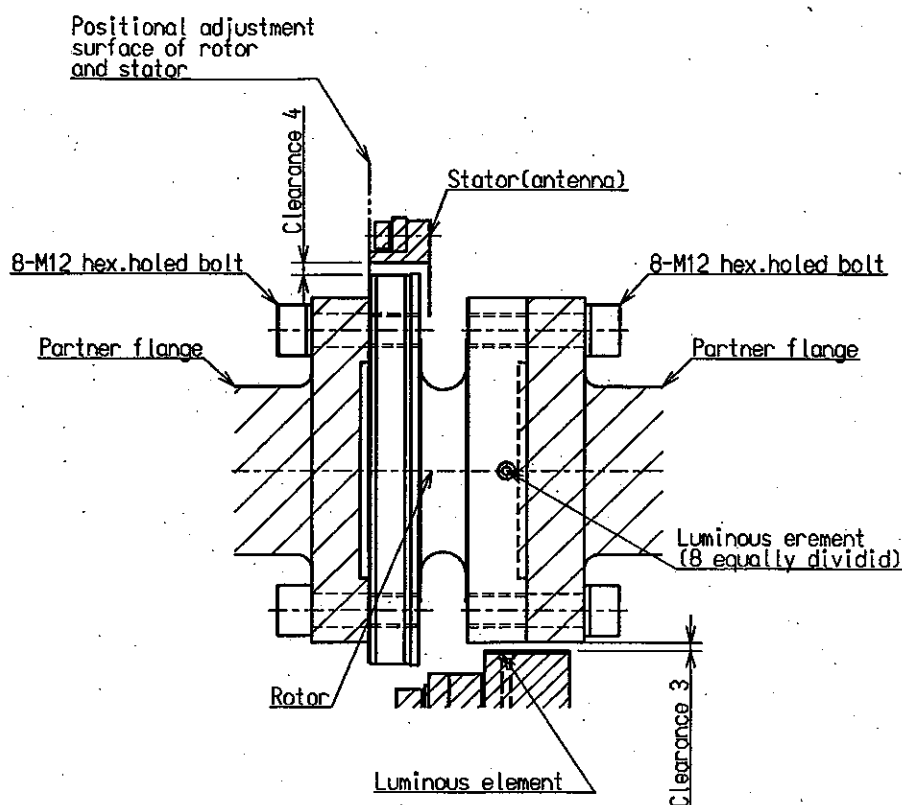
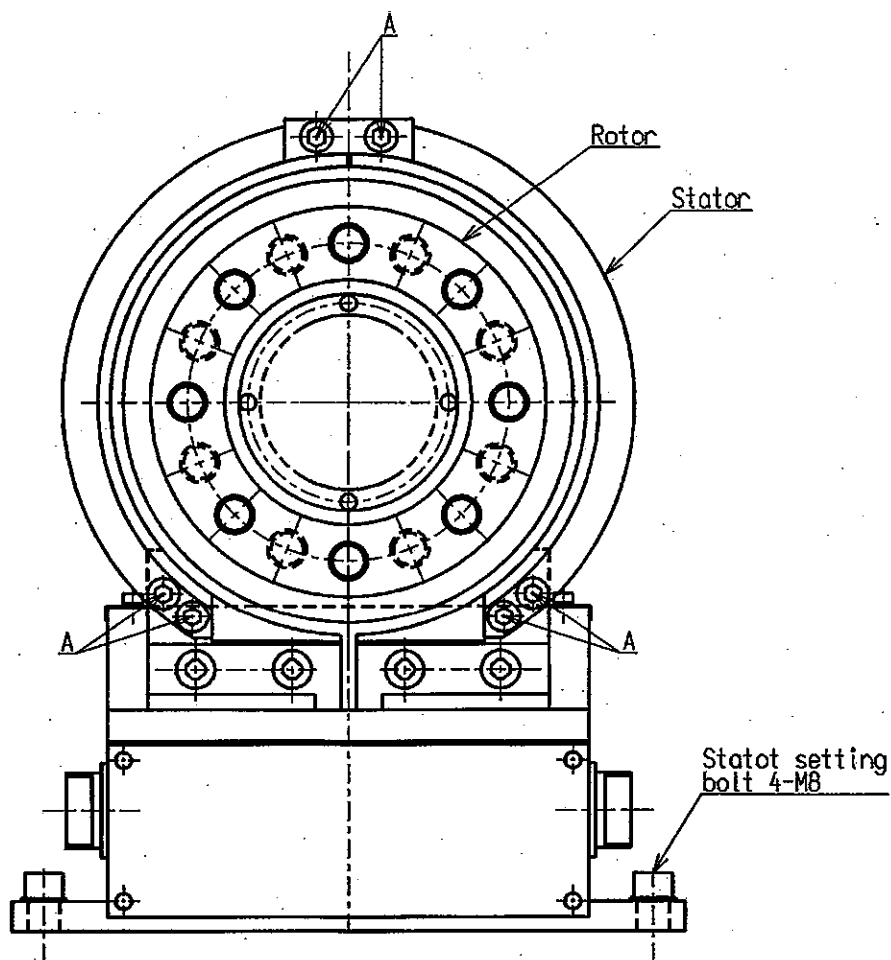

FIG.1
FIG.2
(Refer to Fig. 1)
- (2) Dividing the stator ( antenna ), install it by adjusting it to the rotor. Disconnecting 6-M6 hex holed bolts illustrated in Fig. A of fig. 2, divide the antenna. When disconnecting be sure not to lose set bolts, counter-sunk spring washers accidentally. As for the position of axial direction, slide the stator on the positional adjusting surface in Fig. 1 and install it. As for the clearance in a circumference direction, adjust the stator positions to such an extent that rotor and stator do not come in contact with each other. The standard clearance is 4 mm. Visual level positional adjustment may be permitted.